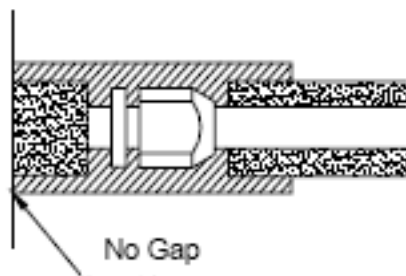

Fig.3.1.11
- ◆ The joint connecting to the indoor unit must be wrapped by thermal insulation material. There shall be no gap between the connecting pipe joint and the wall of the indoor unit. Refer to Fig.3.1.11.